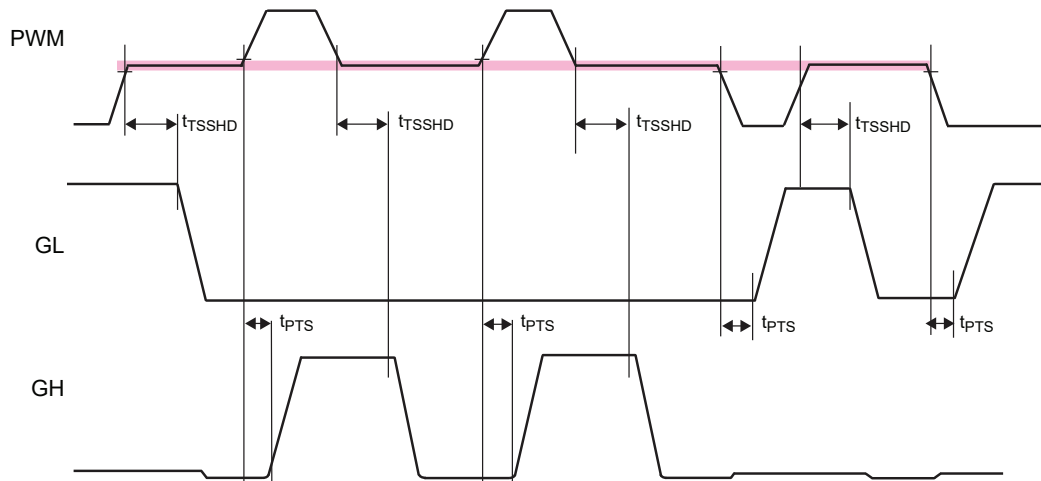

Figure 2. Tri-State Input Logic Timing Diagram
The PWM is also a tri-state compatible input. When the input is high impedance or unconnected both the gate drives will be off and the gates are held active low. The PWM Threshold Table in Table 1 lists the thresholds for high and low level transitions as well as tri-state operation. As shown in Figure 2, there is a hold off delay between the corresponding gate drive is pulled low. This delay is intended to prevent spurious triggering of the tri-state mode which may be caused either by noise induced glitches in the PWM waveform or slow rise and fall times.
**Note:** See Figure 2 for propagation delays and tri-state window.